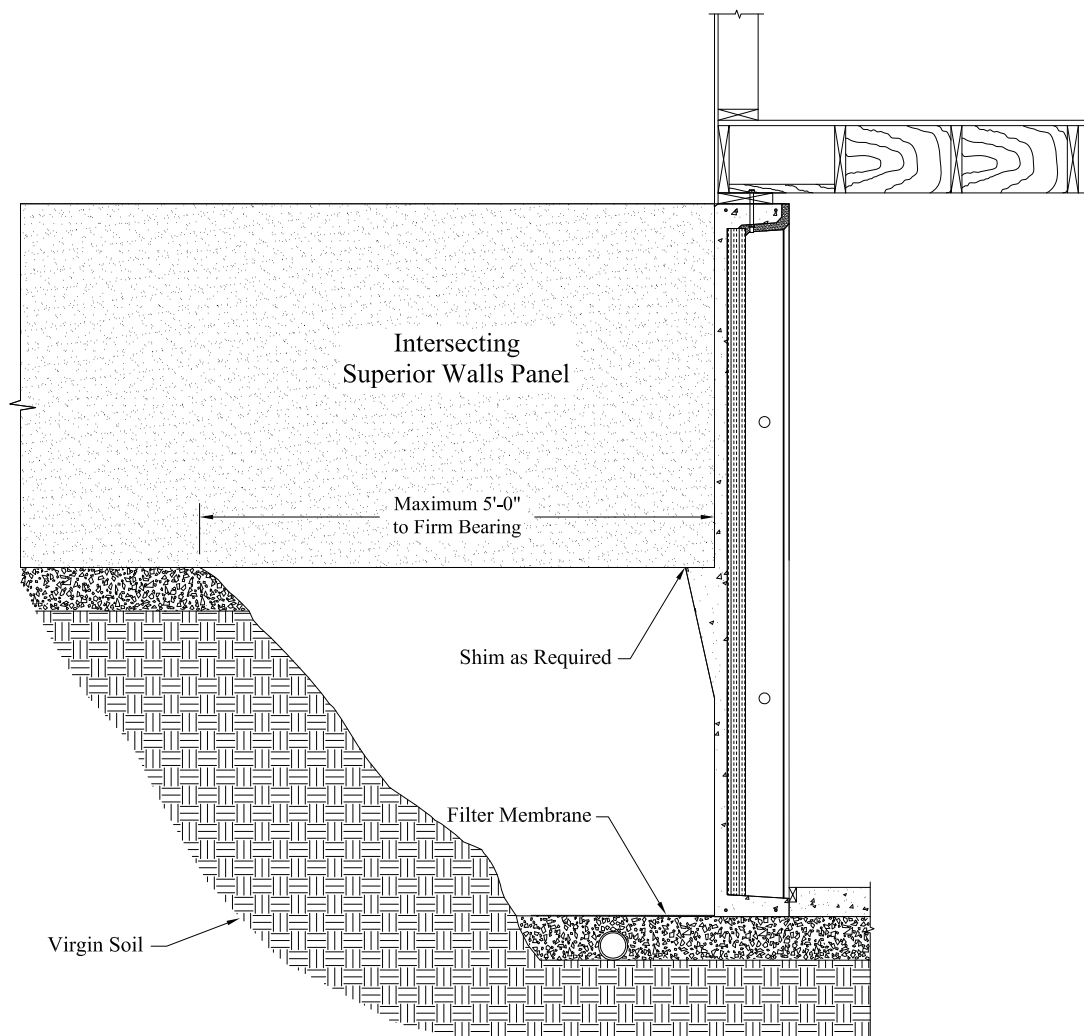

Figure 4
- When a wall such as a garage wall or crawl space wall intersects the basement wall and rests on a precast ledge, the overdig must not exceed 5'-0". (See Figure 4.)